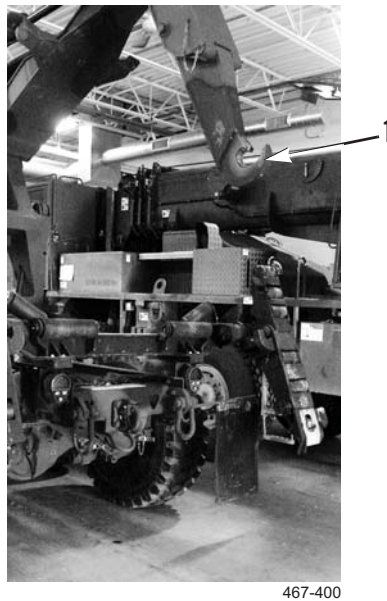

Figure 54. Hook Position from Ground.
5. Start engine and continue extending hook arm (PLS: TM 9-2320-364-14&P, HEMTT: TM 9-2320-326-14&P) until bottom of hook (Figure 54, Item 1) is 62 in. (1,574 mm) from ground.